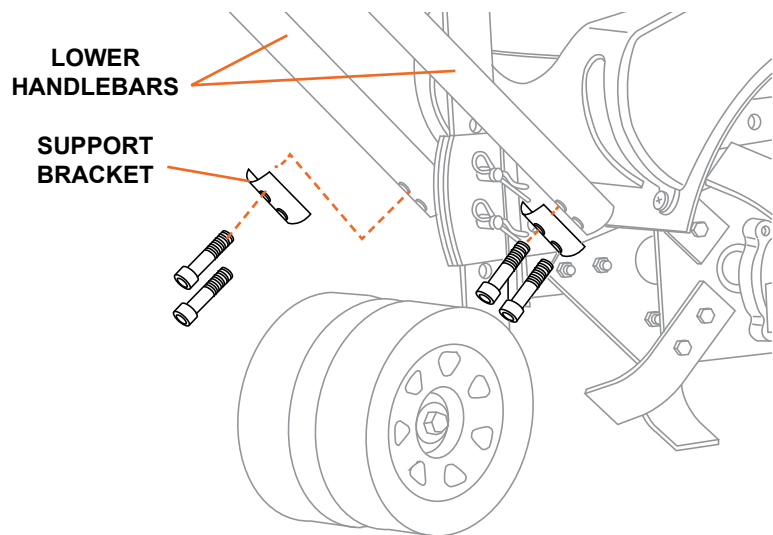

Figure 4
1. Attach the two lower handlebar tubes to the tiller with a tube support bracket and two hex bolts on each side (see Figure 4).